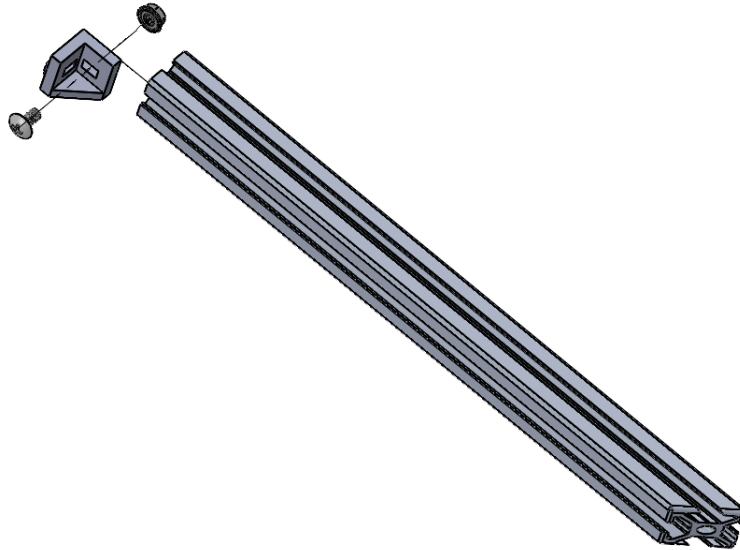

Figure 2 TRACK PROJECTION BRACKET COMPONENTS AND ARRANGEMENT
2. Find and assemble the Track Projection Brackets as shown (Figure 2 TRACK PROJECTION BRACKET COMPONENTS AND ARRANGEMENT)